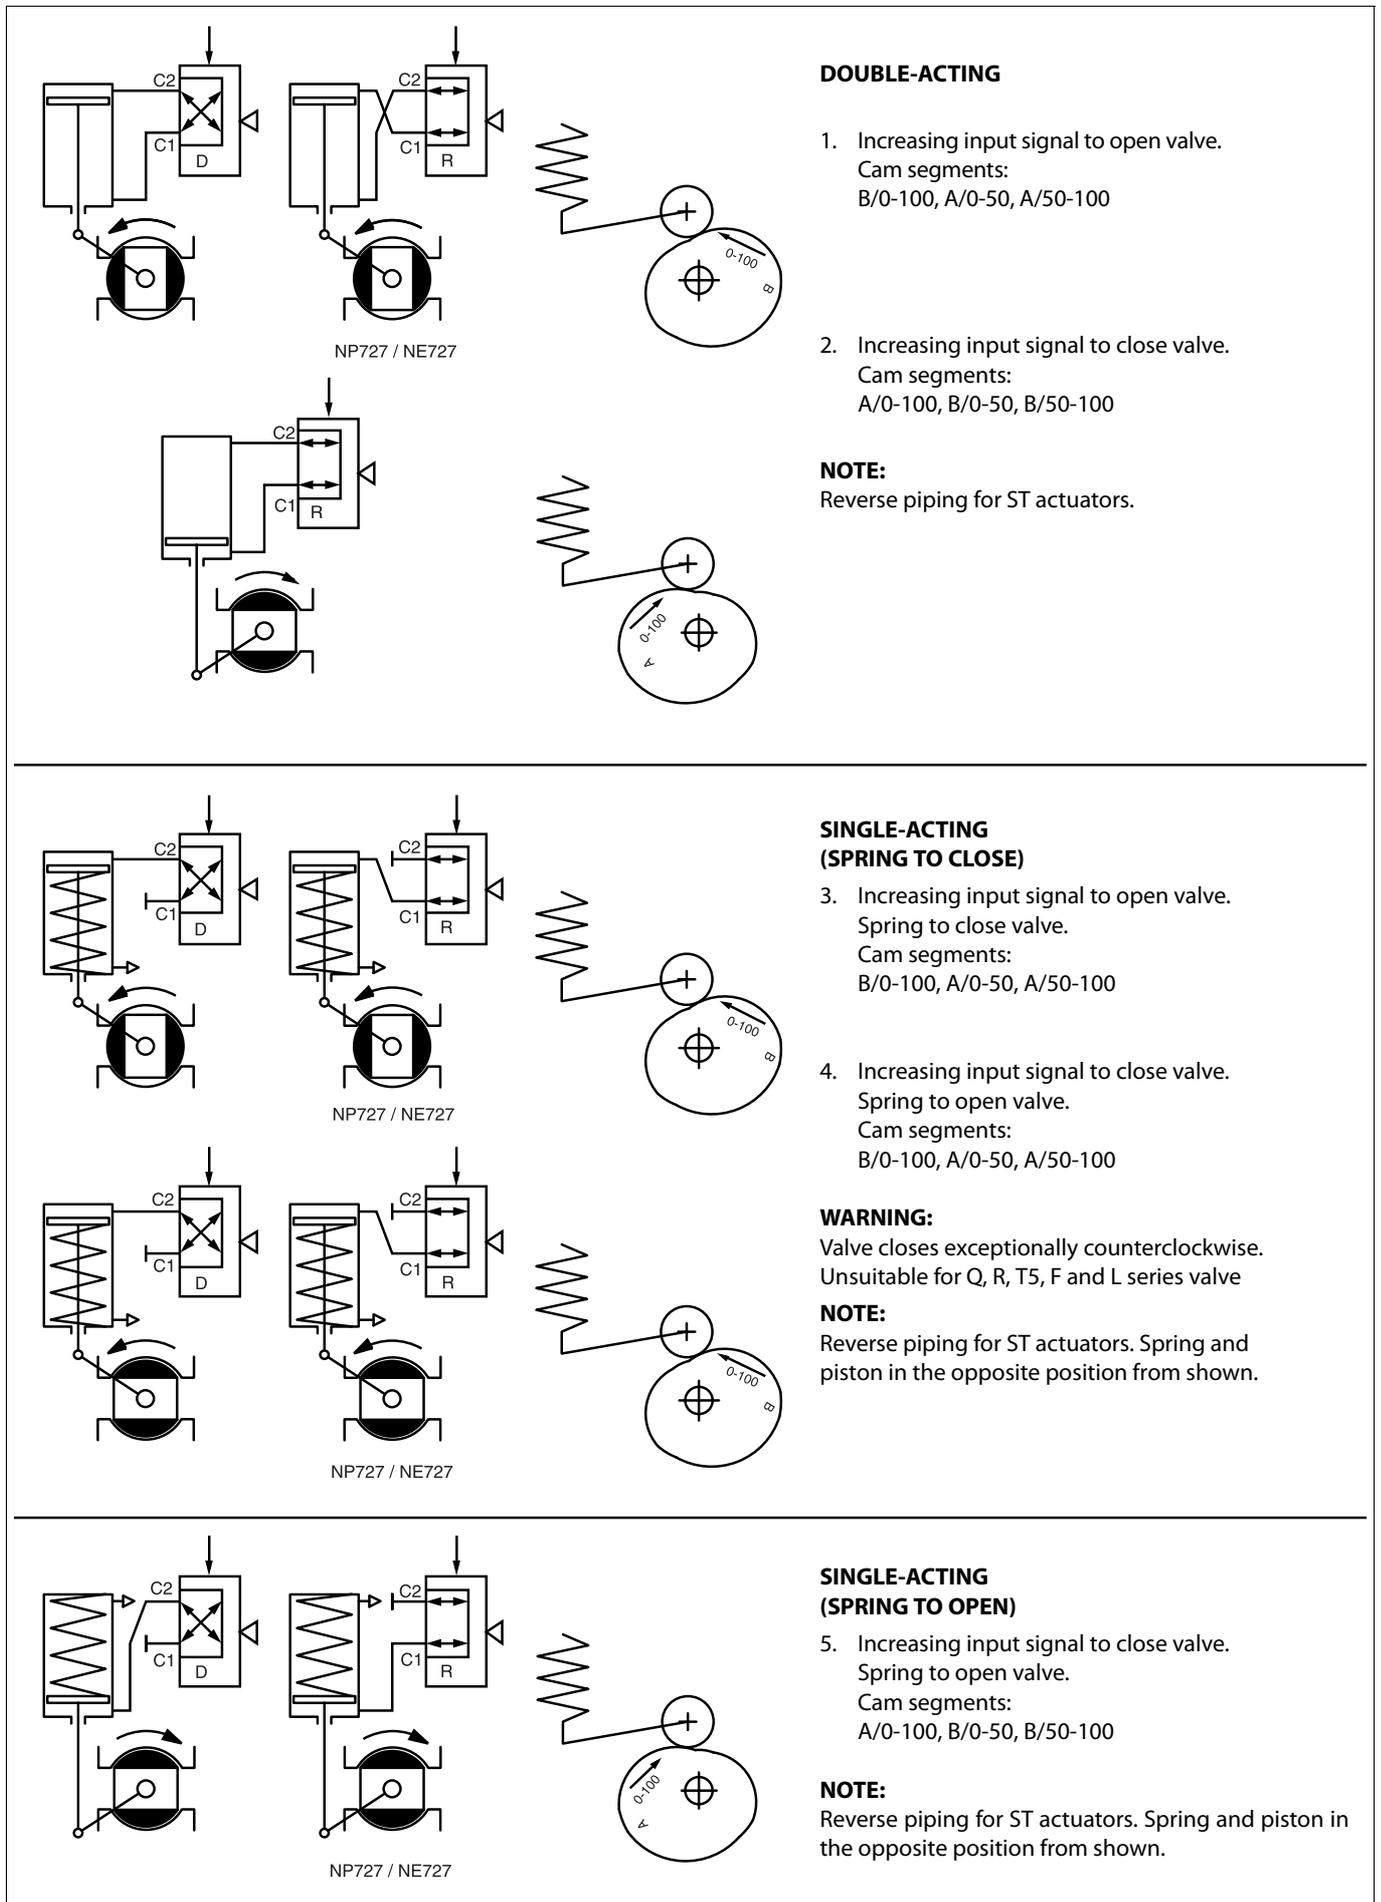

Fig. 5 Positioner actions
2. Install the pointer (only B_U) parallel with the valve closure member and fasten the draught piece (2) with a screw (29) to the pointer cover (B_U) or to the coupling (QP), as shown in Fig. 5. Secure the draught piece fastening screw with a sealant (e.g. Loctite) and tighten it properly.
3. Fasten the mounting bracket (1) to the positioner.
4. Fasten the mounting bracket (1) to the actuator.